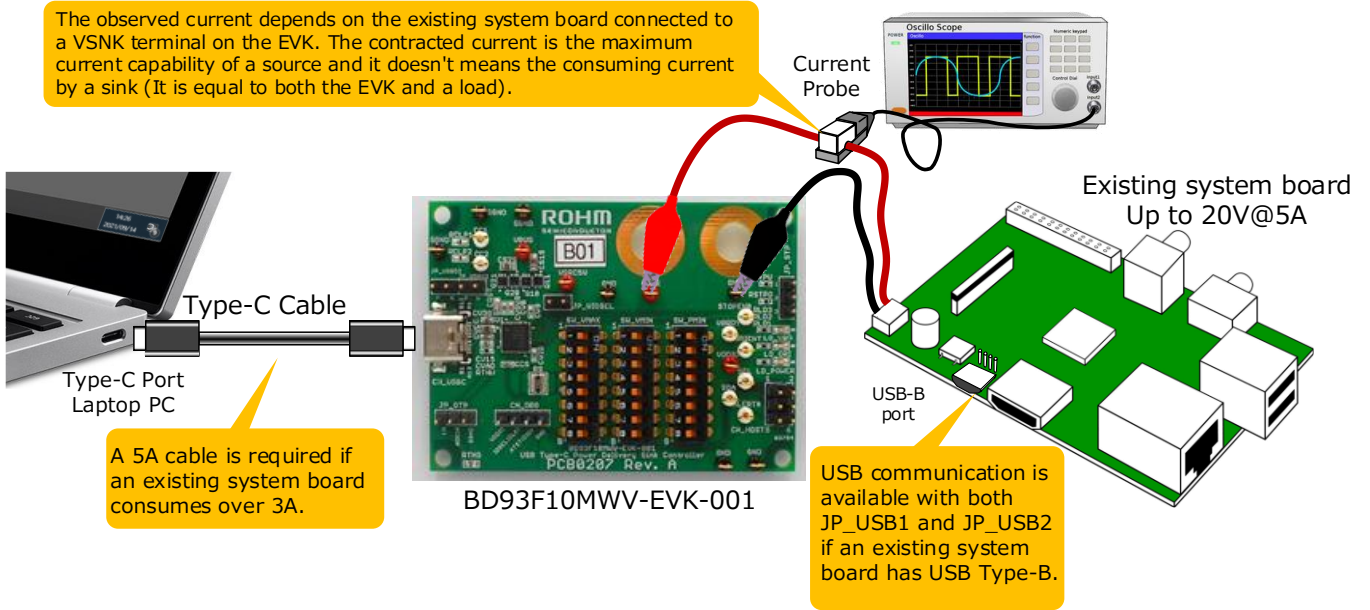

Figure 6. An example of the connection of the EVK supplying power to an existing system board
4. When connecting the existing system board for evaluation, connect the EVK into the existing system board before power up as shown in Figure 6.